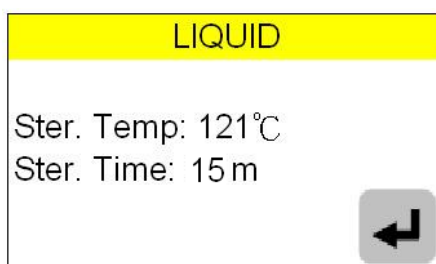

Figure 59
G. Press  or  button until as shown in Figure 59.